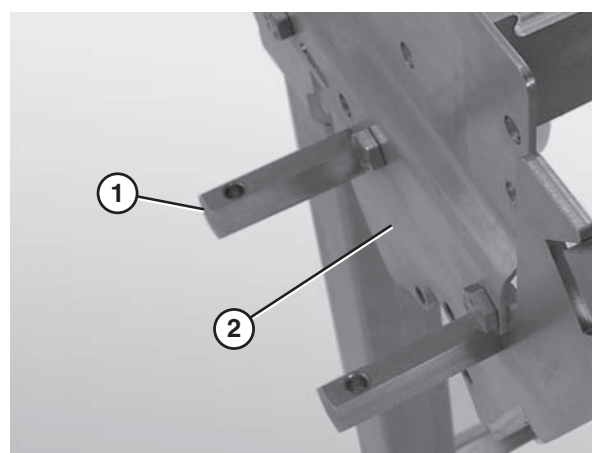

Figure 32
1. Attach the gear reducer mounting posts (**Figure 32, item 1**) to the nose bar side plate (**Figure 32, item 2**).